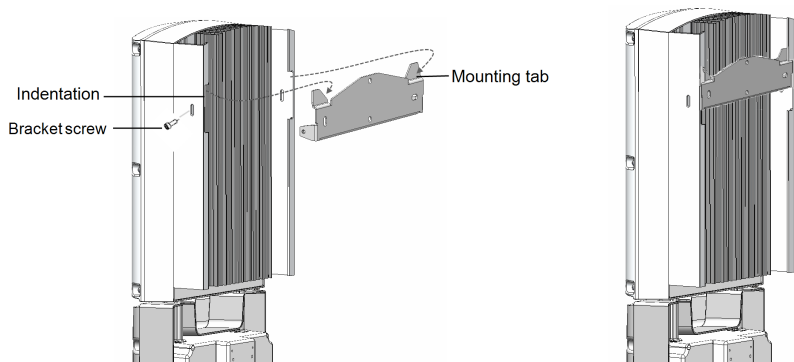

Figure 12: Hanging the inverter on the bracket
- Ensure that the flat side of the bracket is at the bottom, as in *Figure 12*.
4. Hang the inverter on the bracket (see *Figure 12*): Lift the inverter from the sides, or hold it at the top and bottom of the inverter to lift the unit into place. Do not lift holding the Safety Switch StorEdge Connection Unit as it may be damaged.
- Insert the two supplied screws through the outer heat sink fin on both sides of the inverter and into the bracket (see *Figure 12*). Tighten the screws with a torque of $4.0 \text{ N}\cdot\text{m}$ / $2.9 \text{ lb}\cdot\text{ft}$.